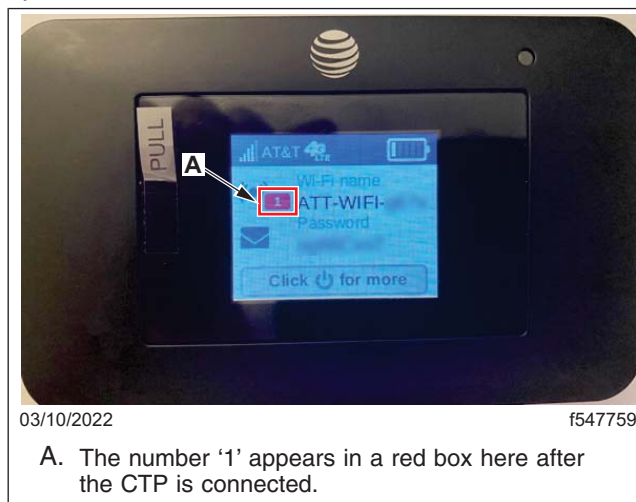

Fig. 37, Red Connection Indicator
18. To verify the UE2 Wi-Fi hotspot device is connected to the CTP, check for a red connection indicator at the left side of the UE2 Wi-Fi hotspot device display screen with the number '1' displayed in it. See Fig. 37. If the red connection indicator does not turn to '1' after approximately 10 minutes, repeat step 17. If the red connection indicator still does not change to '1,' call Detroit Connect support at 855-253-0420, or email detroitconnect@daimlertruck.com. If you do not receive an immediate response, submit a WSC ticket to the warranty campaigns group.